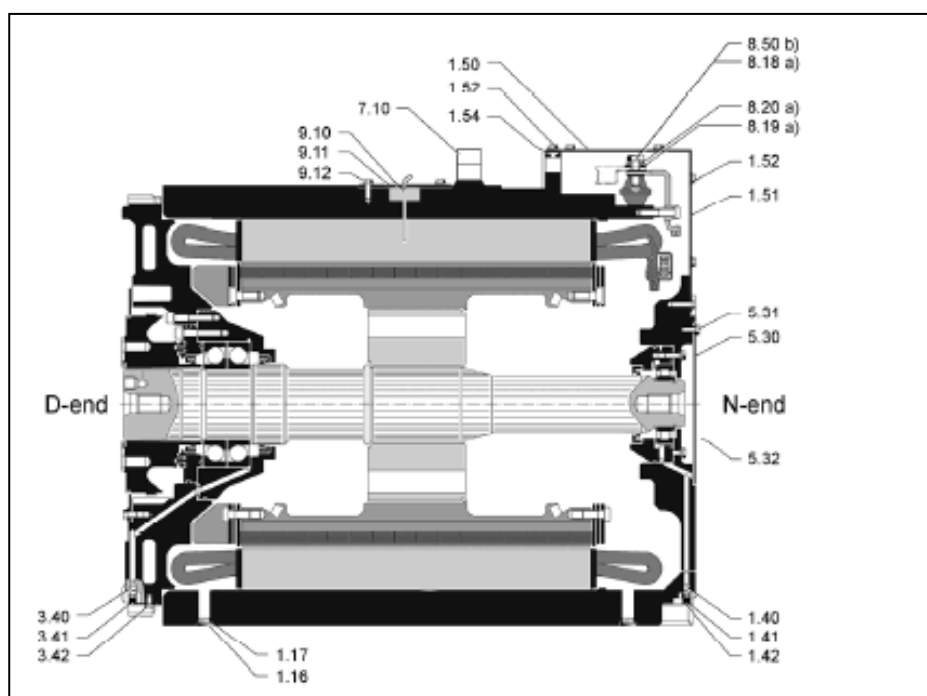

Figure 3
STEP 3 IN DETAIL: To remove temperature sensor (figure 3)
STEP 5 IN DETAIL: To fit temperature sensor (figure 3)